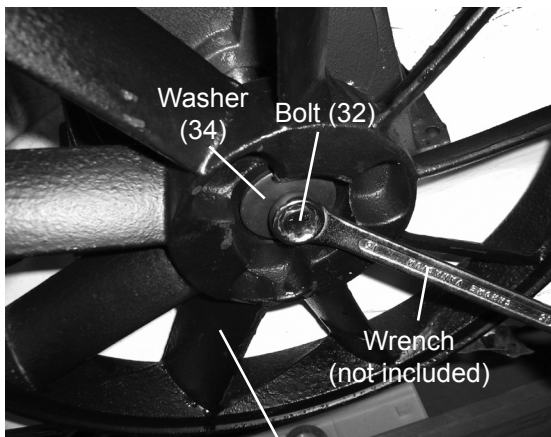

Figure 2
3. Slide Washer (34) onto the Bolt (32) and insert the Bolt through Belt Wheel and thread into Crankshaft. Tighten using Wrench (not included) - See Figure 2.